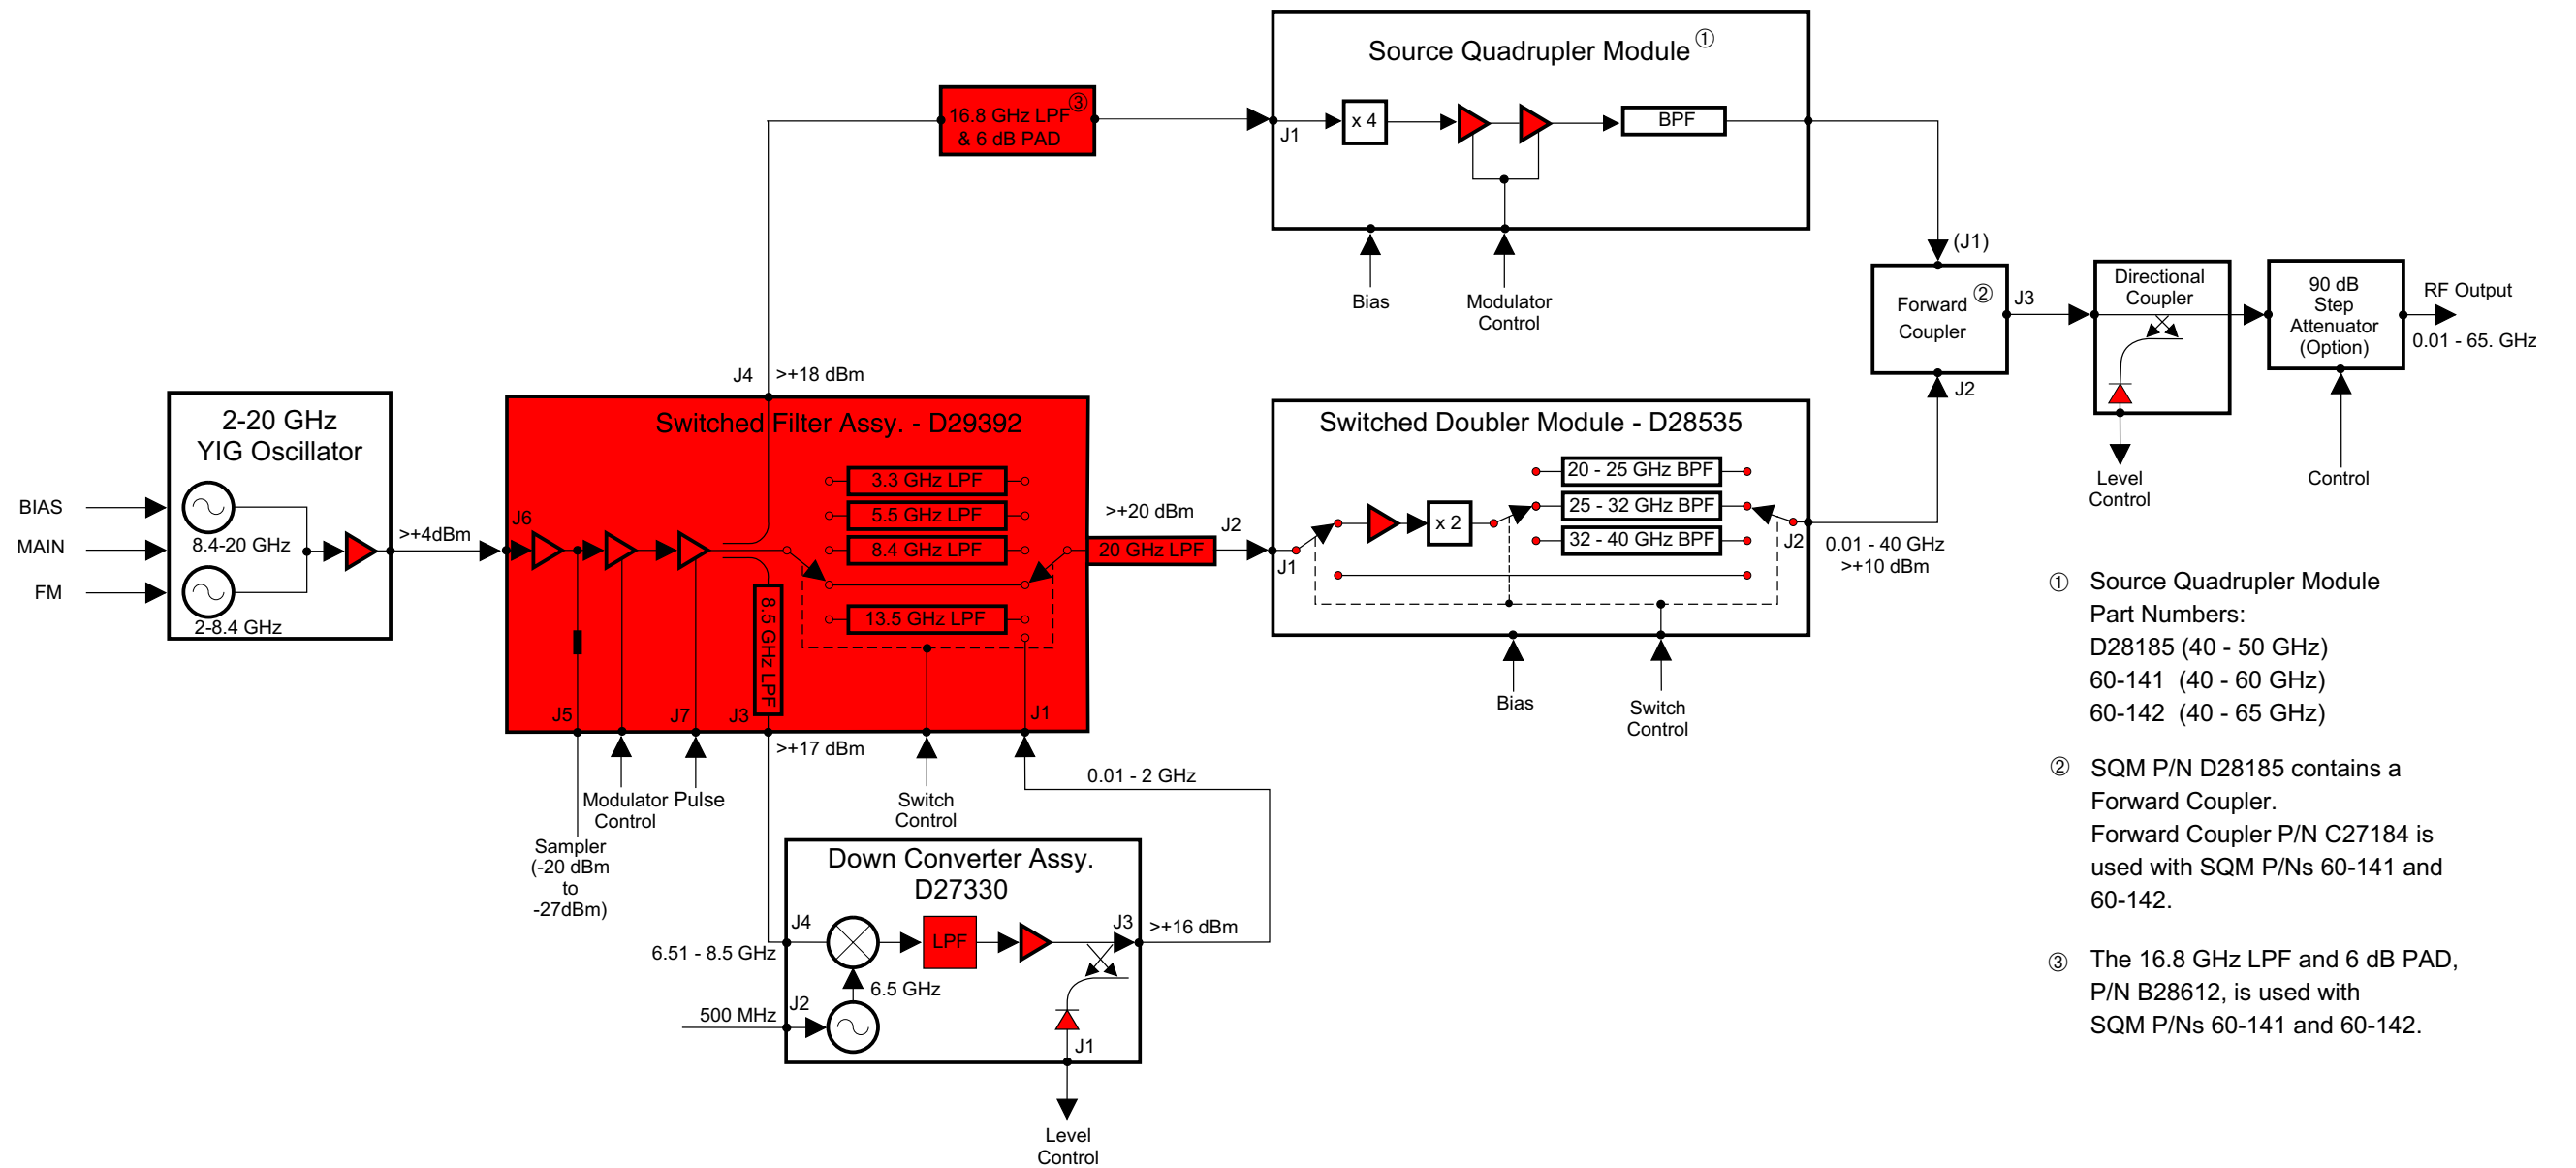

Figure 2-5. Block Diagram of the RF Deck Assembly for all >40 GHz Models (except 692X5A/693X5A Models)
RF output frequencies of 40 to 65 GHz are developed by quadrupling the 10 to 16.25 GHz fundamental frequencies (refer to Figure 2-5, page 2-22). Precise control of the 40 to 65 GHz to 1 kHz (0.1 Hz with Option 11) resolution is achieved by phase-lock control of the 10 to 16.25 GHz fundamental frequencies prior to quadrupling.
- ❑ Figure 2-5, page 2-22, is a block diagram of the RF deck assembly for all >40 GHz models except for 692X5A/693X5A models.
coupler in the switched filter path of high power switched filter assemblies provides the RF signal for the source quadrupler module (refer to Figure 2-5). Whenever an instrument is generating RF signals of >40 GHz, a RF signal is coupled out via J4 to the source quadrupler module.